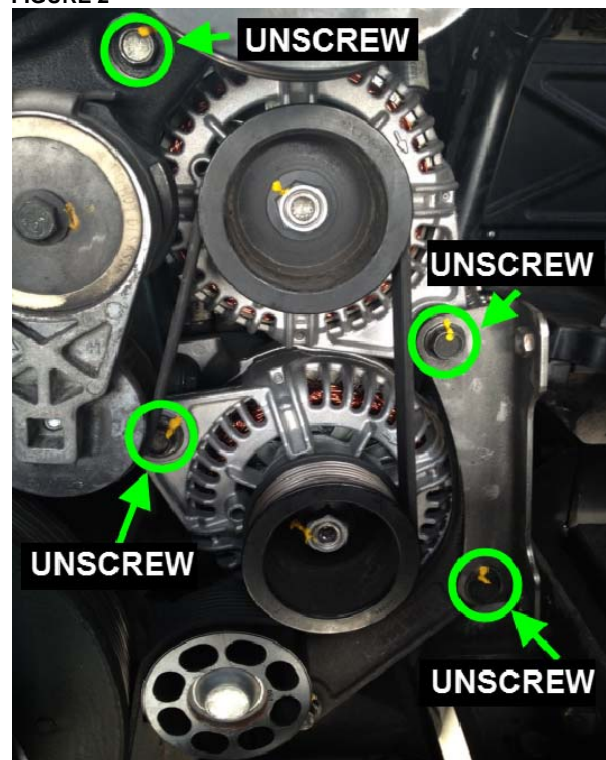

FIGURE 3
5. Remove the existing alternators. To do so, unscrew identified mounting bolts on figure 3 and retain for use if in good condition.